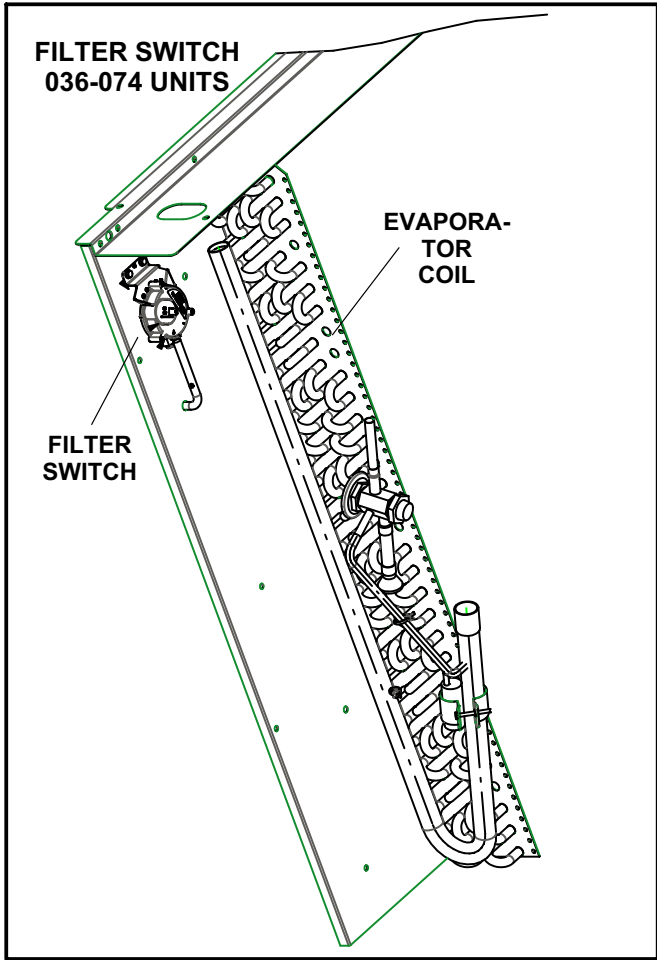
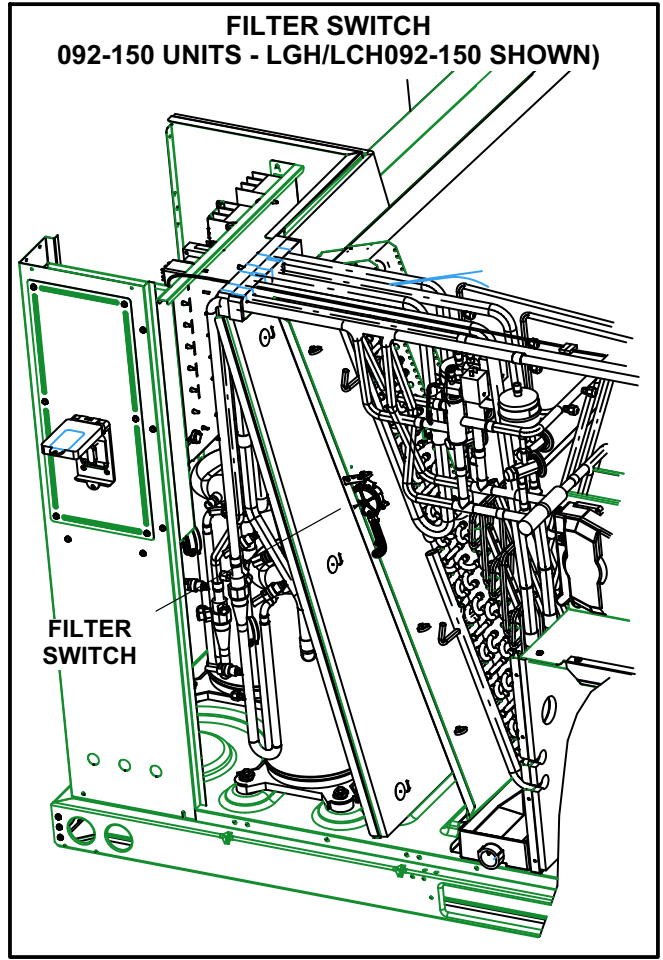
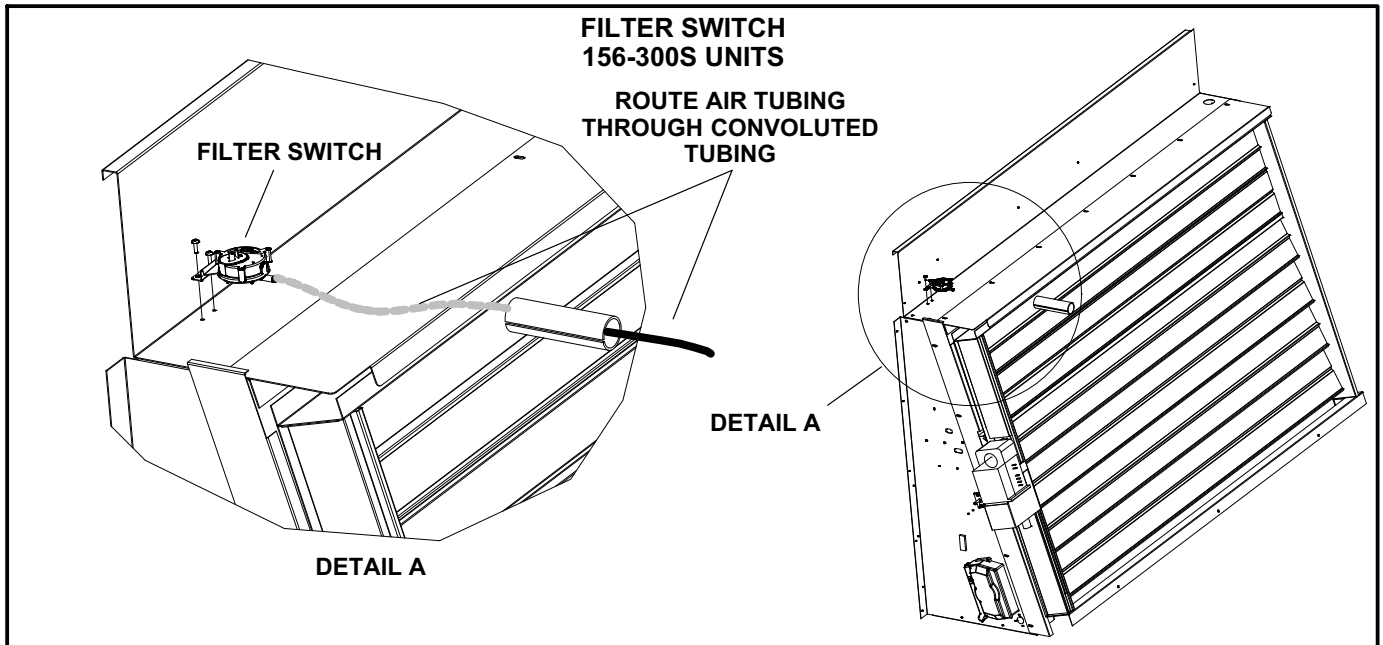
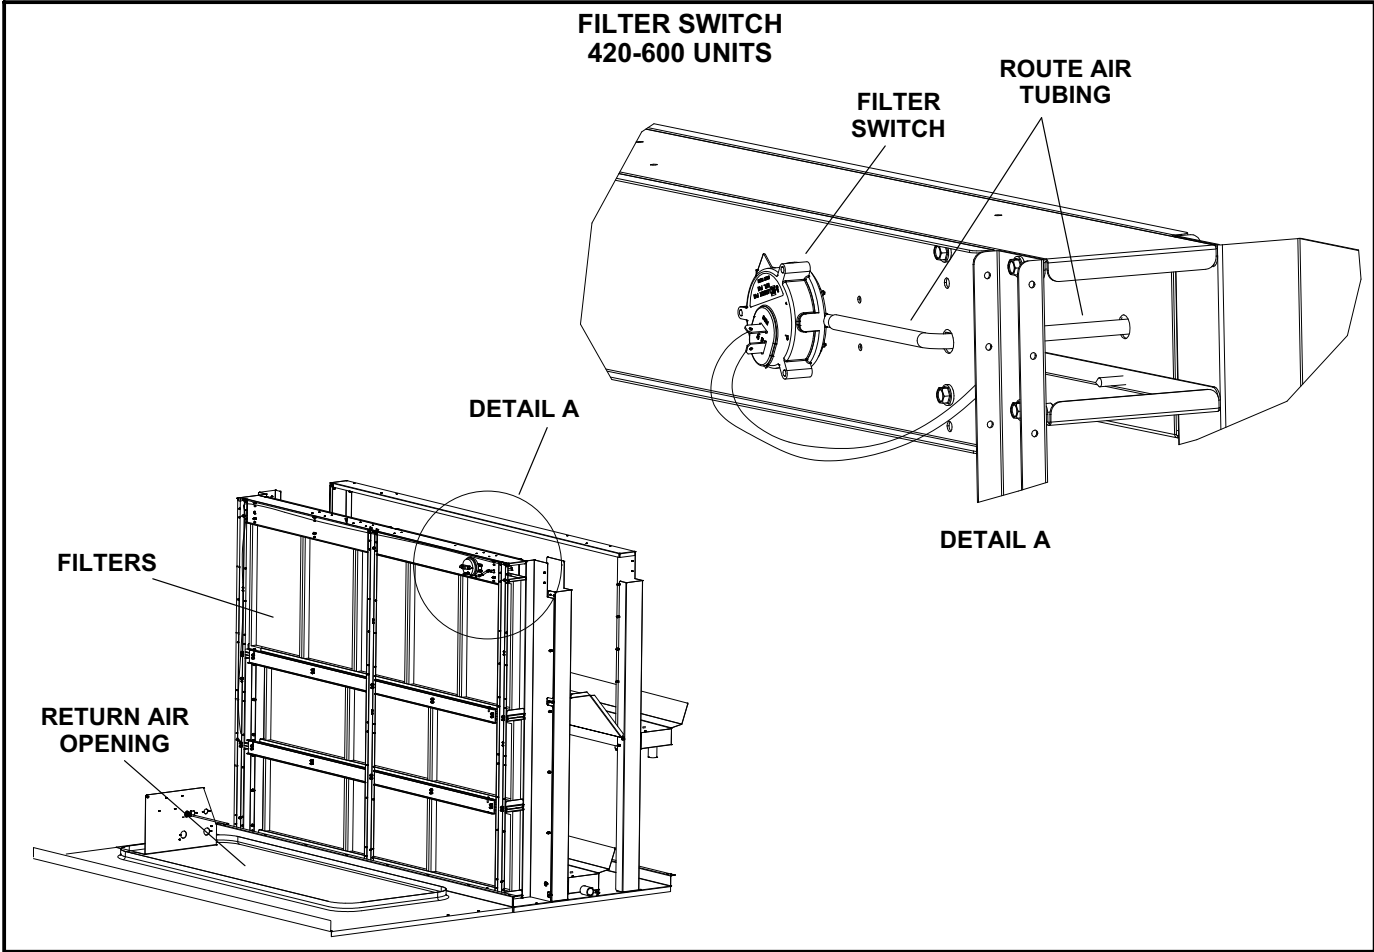

FIGURE 1
FIGURE 2
FIGURE 3
FIGURE 4
- 2- Install filter switch in location shown in figure 1 for 036-074 units, figure 2 for 092-150 units, figure 3 for 156-300S units and figure 4 for 420-600 units.